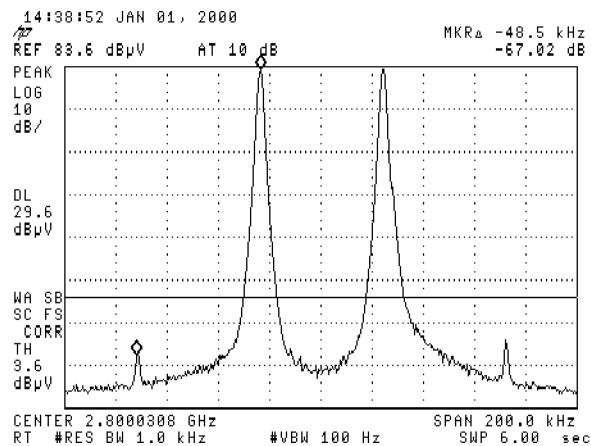

Figure 2-47. Third Order Intermodulation Distortion, HP 8594EM
18. The third-order intermodulation distortion products should appear 50 kHz below the lower frequency signal and 50 kHz above the higher frequency signal. Their amplitude should be less than the display line. See Figure 2-47.